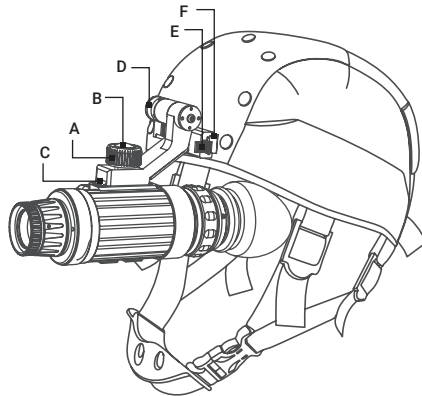

FIGURE 2-2. MOUNTING WOLF 14 TO A GOGGLE KIT
Mount the Wolf 14 to the goggle kit as follows (refer to Figure 2-2):
Figure 2-2 shows the Wolf 14 in the correct position for the left eye. To readjust the unit for the other eye, remove the unit from the goggle kit bracket. Turn the unit around (180°) and mount it on the bracket through the rail on the second side. With the button (E) pushed, move the unit along the slide-rail (F) until the desired, most comfortable position is reached.